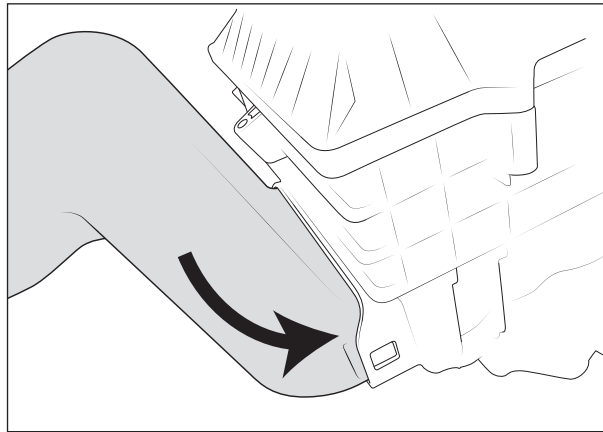

Figure 9
3. Slide intake portion of AEV snorkel into airbox body until fully seated together. It will lock into the airbox the same way as the factory inlet. RTV or silicone is not required at this joint, but can be added if desired for excessively dusty or wet conditions (fig. 9).